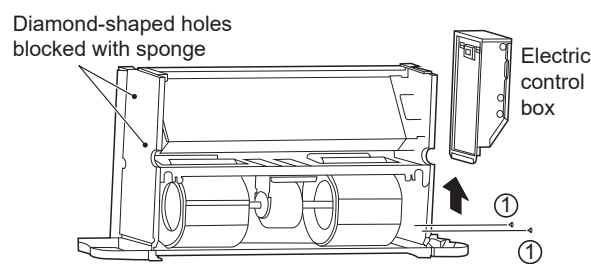

Figure 5-19 Removing the electric control box and blocking the diamond-shaped holes
As shown in Figure 5-19, remove screws ①\*2 to take the electric box out.
As shown in Figure 5-19, block the diamond-shaped holes on the side plate (the plate without inlet and outlet pipes) with sponge.